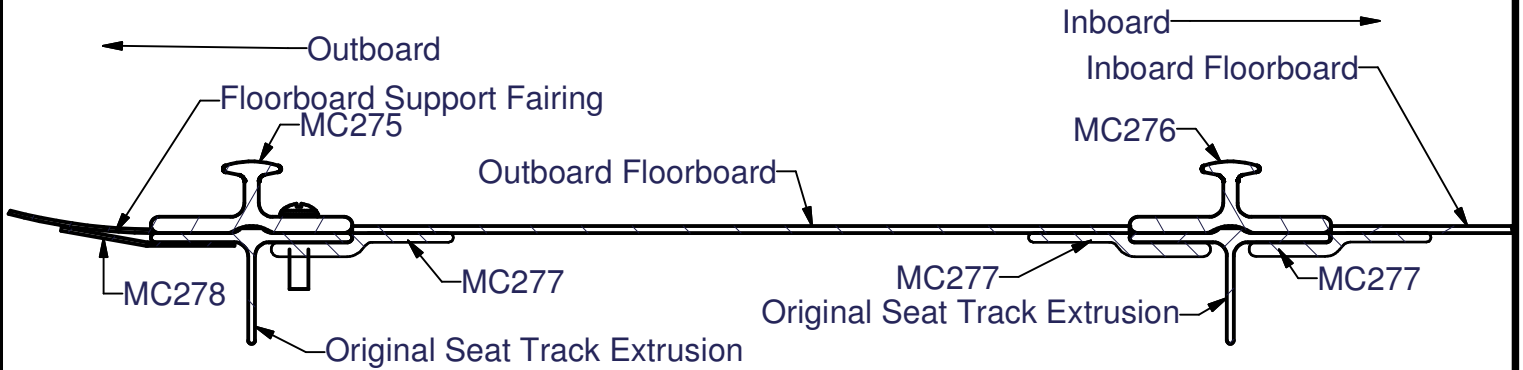

Figure 2: Typical cross section of installed repair kit.
14. Remove the new seat tracks. Using these seat tracks as templates, match drill or otherwise duplicate the holes drilled in steps 9 through 12 onto the three Floorboard Attach Flanges (P/N MC277) and the Fairing Attach Flange (P/N MC278). Refer to Figure 2 and Assembly Drawing 2SR062 for proper alignment and configuration.
18. Position the new **Seat Tracks** (P/N's MC275 and MC276), the **Floorboard Attach Flanges** (P/N MC277, 3 each cut into multiple lengths) and the **Fairing Attach Flange** (P/N MC278, cut into multiple lengths). Refer to Figure 2 and Assembly Drawing 2SR062 for proper alignment and configuration.